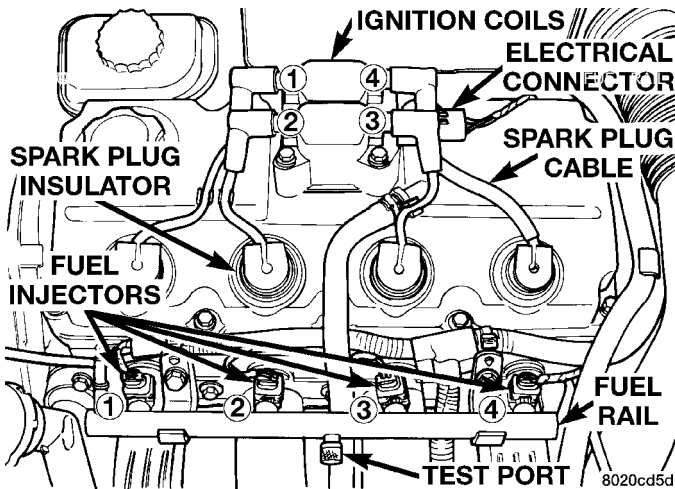

Fig. 11 Fuel Pressure Test Port—Typical
- (1) Disconnect negative cable from battery.
- (2) Remove fuel filler cap.
- (3) Remove the protective cap from the fuel pressure test port on the fuel rail (Fig. 11).